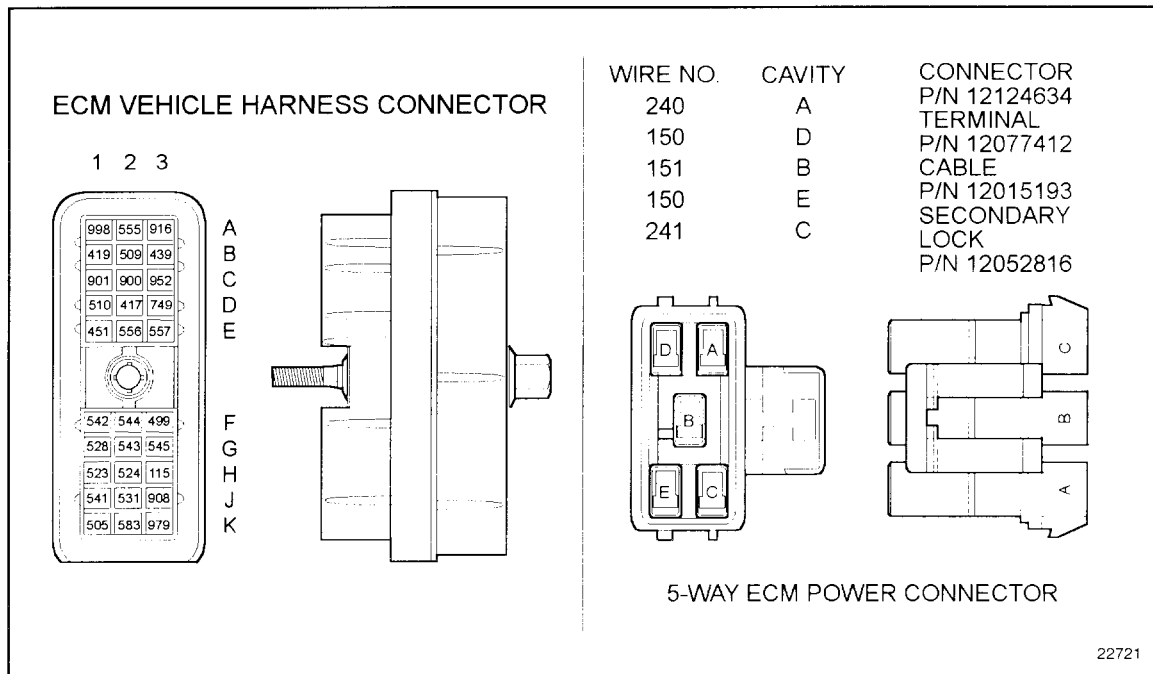

Figure 38-5 ECM Vehicle Harness Connector
2. Disconnect the vehicle harness and 5-way power connectors at the ECM. See Figure 38-5.